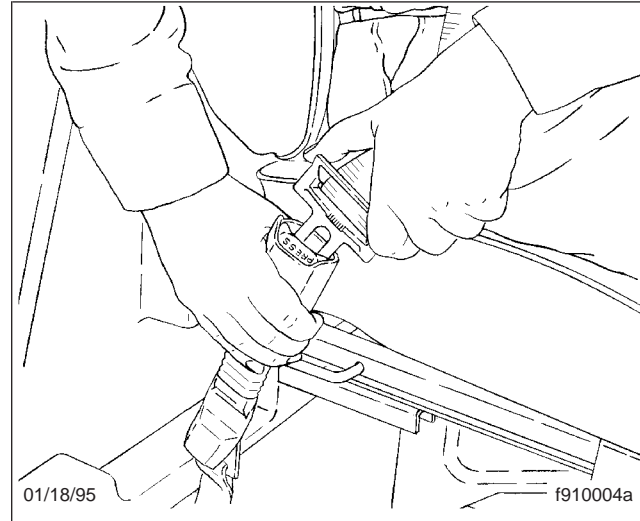

Fig. 2.11, Fastening the Three-Point Seat Belt
2. Fasten the three-point seat belt by pushing the link into the buckle until it latches. See Fig. 2.11. Give the belt a tug at the buckle. If the buckle unlatches,